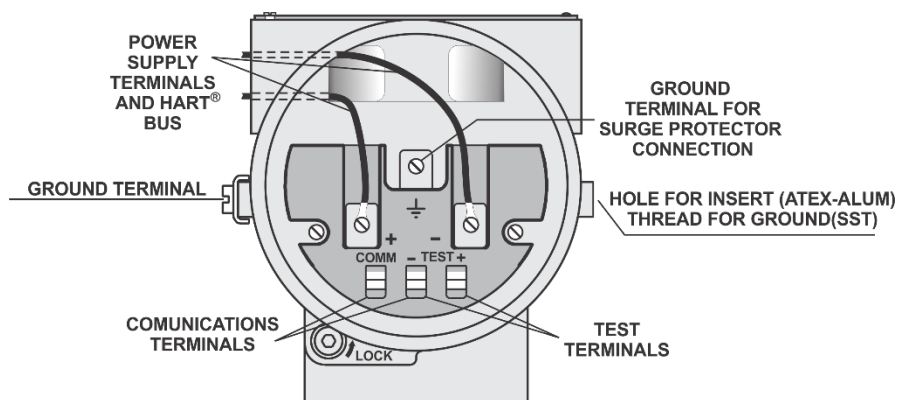

Figure 1.5 – Terminal Block
**Test** and **Communication terminals** allow, respectively, to measure the current in the 4 - 20 mA loop, without opening the circuit, and also to communicate with the transmitter. The “Test Terminals” must be used to measure the current. The “COMM” terminal must be used for HART communication. The terminal block has screws where fork-type or ring-type terminals can be fastened. See Figure 1.5.